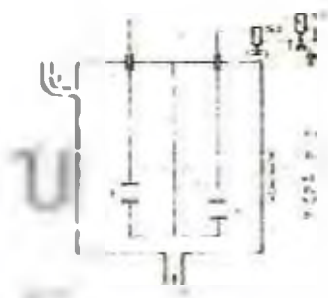

Fig. 10
- 10 - Water-level monitoring tank, should be mounted near by the transmitting tubes with two levels (Fig. 10)